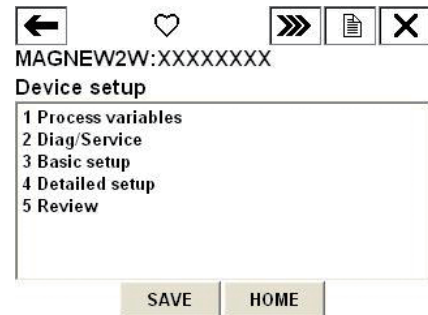

Fig. 7-4. Device setup menu
1. Select "1. Device setup" from online menu 1 (Fig. 7-4.). The device setup menu will then be displayed. (Fig. 7-4.)